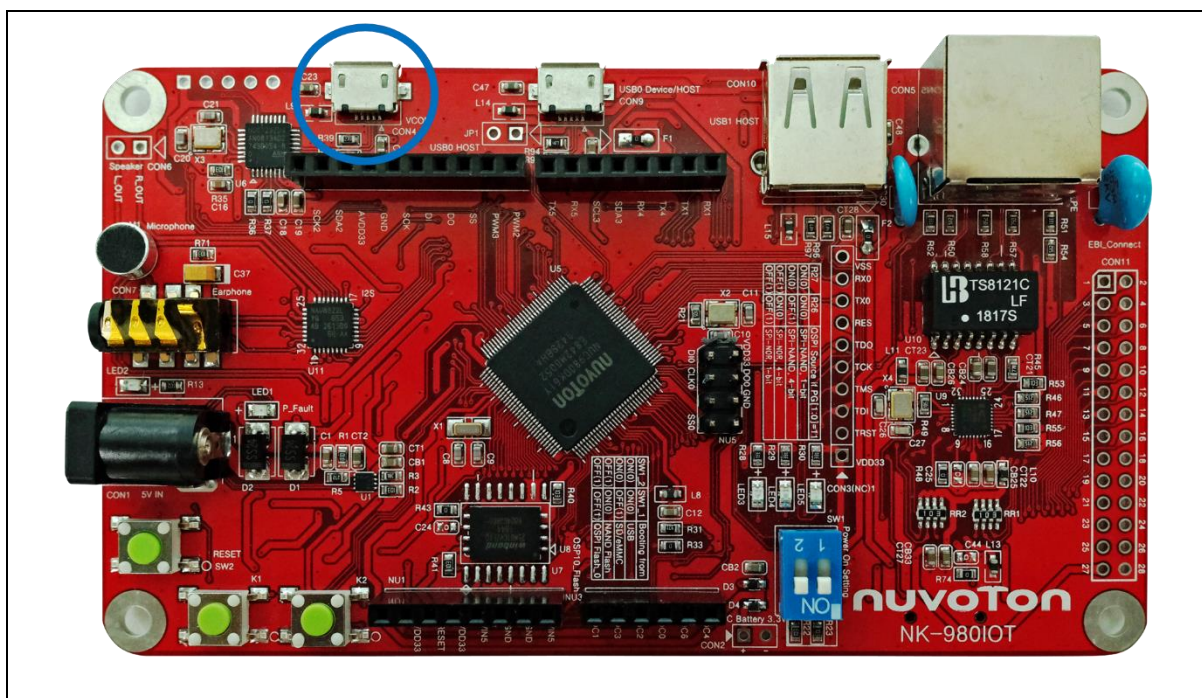

Figure 4-6 USB-Serial Debug Port
1. Connect USB-Serial connector shown in Figure 4-6 to the PC USB port through a USB cable.